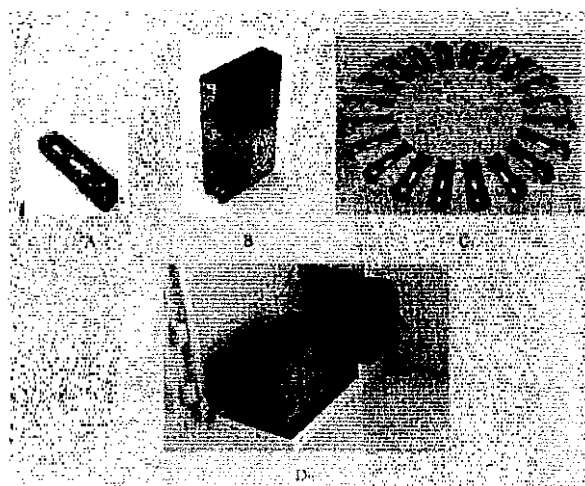

Fig. 4.5-1 Installing rapid tests in Sciendox 2000R
Equip box (B) with rapid tests (A) and place boxes on the rapid test chamber tray (D). The tray can hold up to 4 boxes of the same or different rapid tests. Make sure the label on the box faces the outside of the equipment. The product will automatically place rapid tests on disk (C) (Fig. 4.5-1).